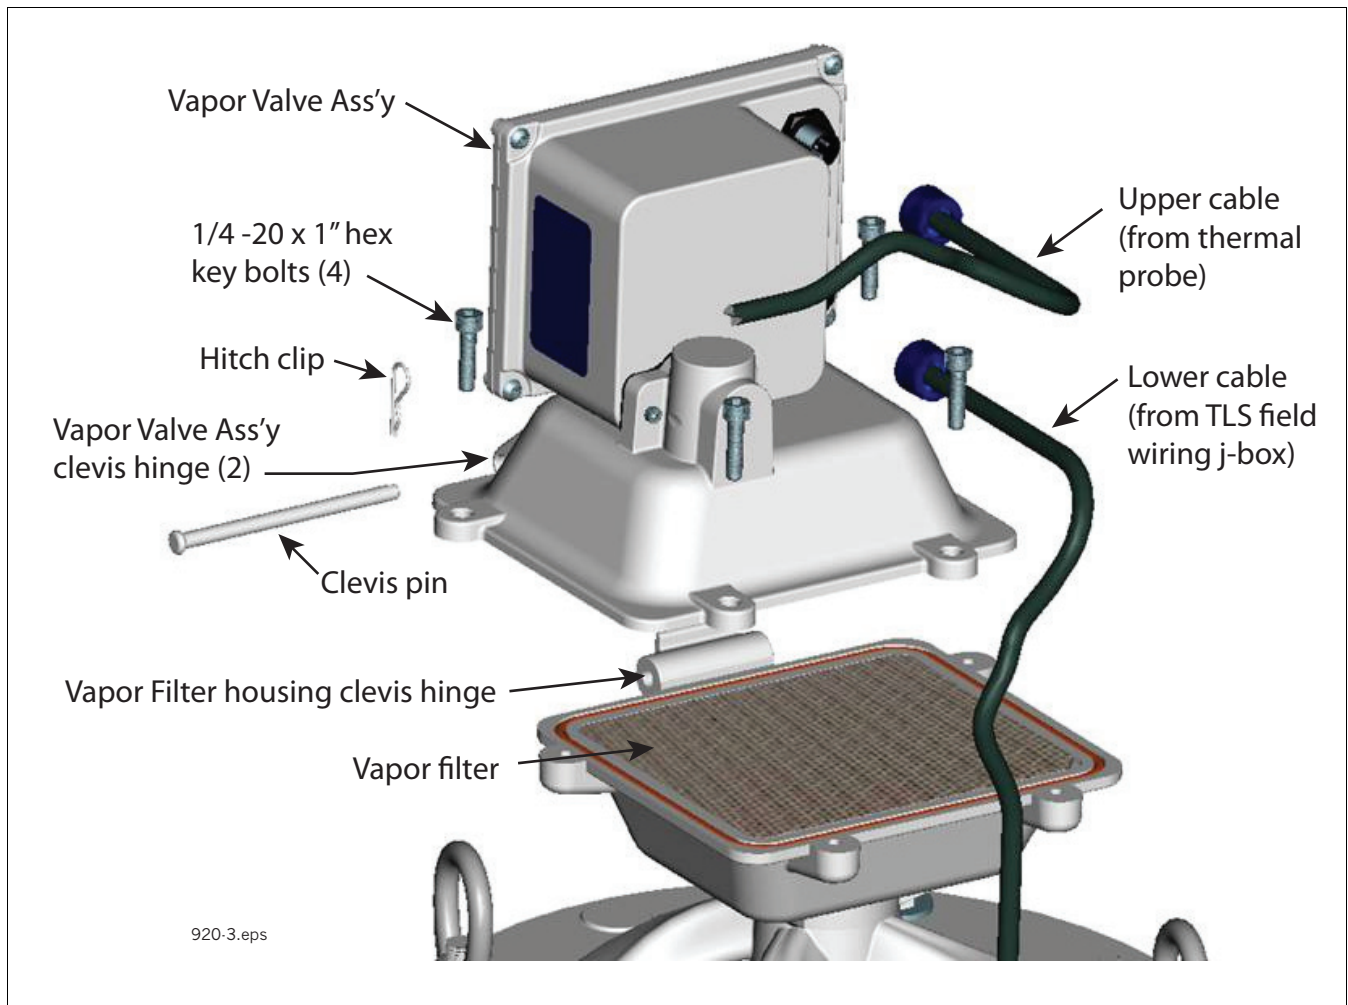

**Figure 17. Replacing the Valve Filter and O-Ring**
2. Swing the housing top back and remove the filter plate from its seat and the o-ring from its groove in the vapor valve filter housing's lower half (see Figure 17).